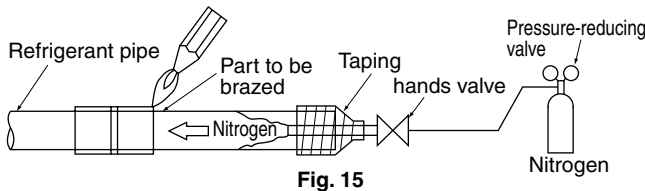

Fig. 15
- Nitrogen should be set to 2.9 psi with a pressure-reducing valve if brazing while inserting nitrogen into the pipe. (Refer to Fig. 15)